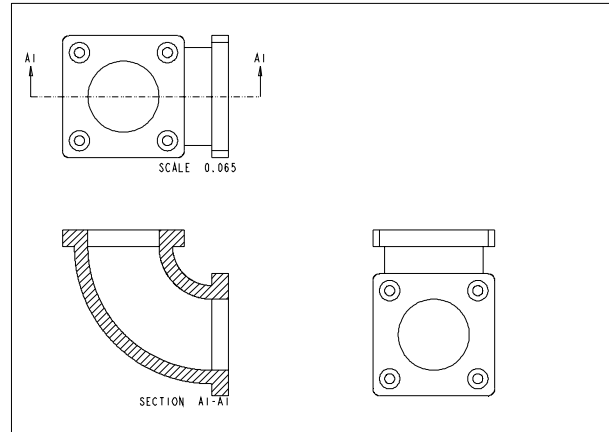

Figure 12-52 The drawing sheet after generating the top, sectioned front, and right-side views
- d. Generate the right-side view of the sectioned front view, refer to Figure 12-52.
3. Specify the center point for the placement of the drawing view on the right of the sectioned front view. The right-side view of the model is placed, as shown in Figure 12-52.